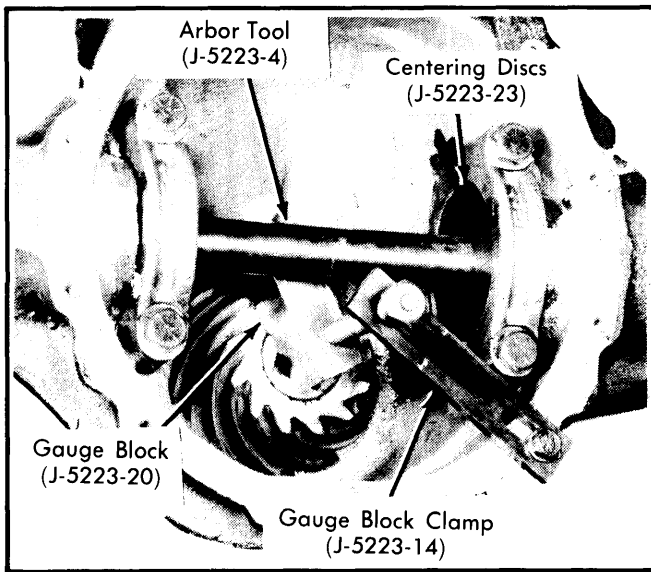

Fig. 6 Measuring Pinion Depth
13) Attach gauge block clamp (J-5223-14 and bolt J-5223-24) to housing cover bolt. Tighten clamp bolt down against gauge block to prevent block from moving. See Fig. 6.